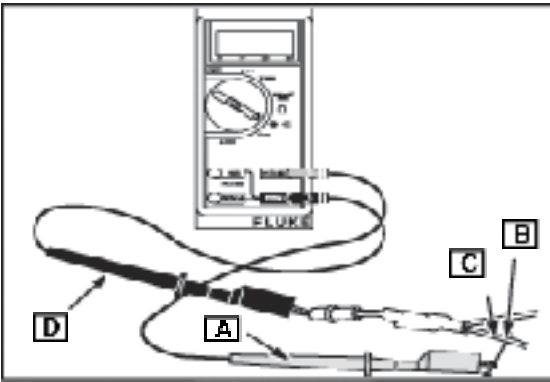

Fig. 33
4. Attach RED test lead clip (**A**) to point (**B**) of the WHITE wire (**C**), FIG.33. (It may be necessary to pierce wire with a pin as shown.)